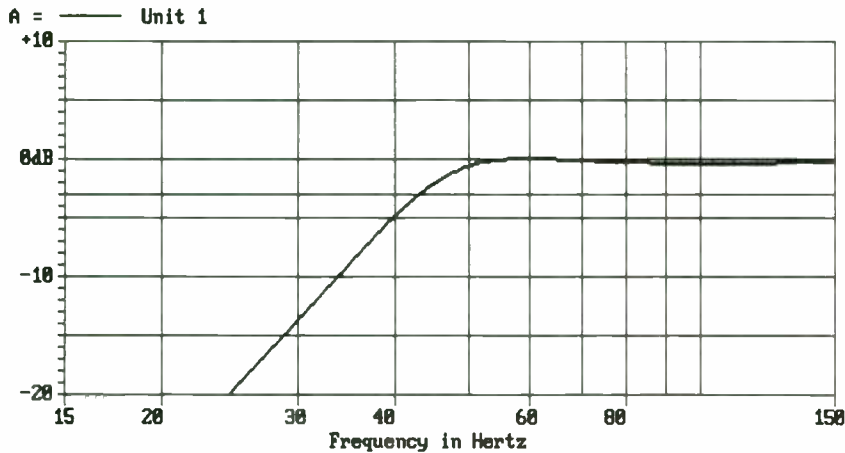

FIGURE 5: Focal 8N515 driver B₄ response by alignment jamming—not produced by Quick Box.
4. B_4 Alignment—Each VB design screen starts with an alignment designated as a Standard B_4 . I am not quite sure what this means. Normally the B_4 alignment for a box Q of 7 only occurs if the driver Q_{TS} is about 0.4. A characteristic of the natural B_4 alignment is that $F_3 = F_S = F_B$. It is possible to force drivers with a lower Q_{TS} into a B_4 alignment using Complex Alignment Jamming. Such jammed B_4 alignments show a slight amount of passband ripple, but do meet the requirement of $F_3 = F_B$. Figure 4 shows the Standard B_4 alignment curve developed by Quick Box for the Focal 8N515 driver, used for the tabulated results in Table II. Note that F_3 does not equal F_B . Figure 5 shows a jammed B_4 alignment curve for this same driver and F_3 does equal F_B with a passband ripple of less than 1dB. The B_4 jamming equations produce strange curves for driver Q_{TS} above 0.4 and are